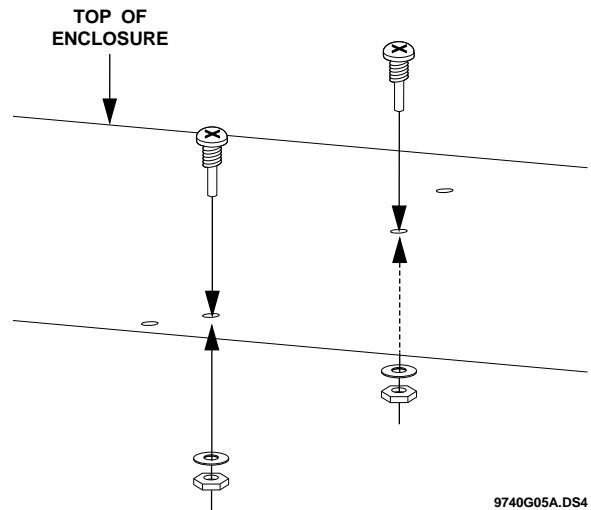

Figure 1. Installing the Ground Plane Screws, Washers, and Nuts
1. After mounting the control panel cabinet, install the ground plane screws, washers, and nuts (included) in the holes on top of the cabinet (see Figure 1).